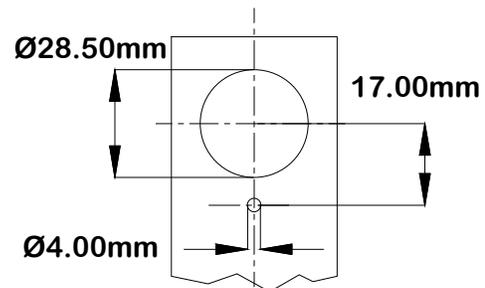

Figure 5: Hole diagram
d) You will need to fabricate a mounting bracket to hold the Sensor in place. Should you choose to mount the Sensor using the CS-6000 Clamping Sleeve provided with each PCS-250 System, drill holes in your bracket per Figure 5.